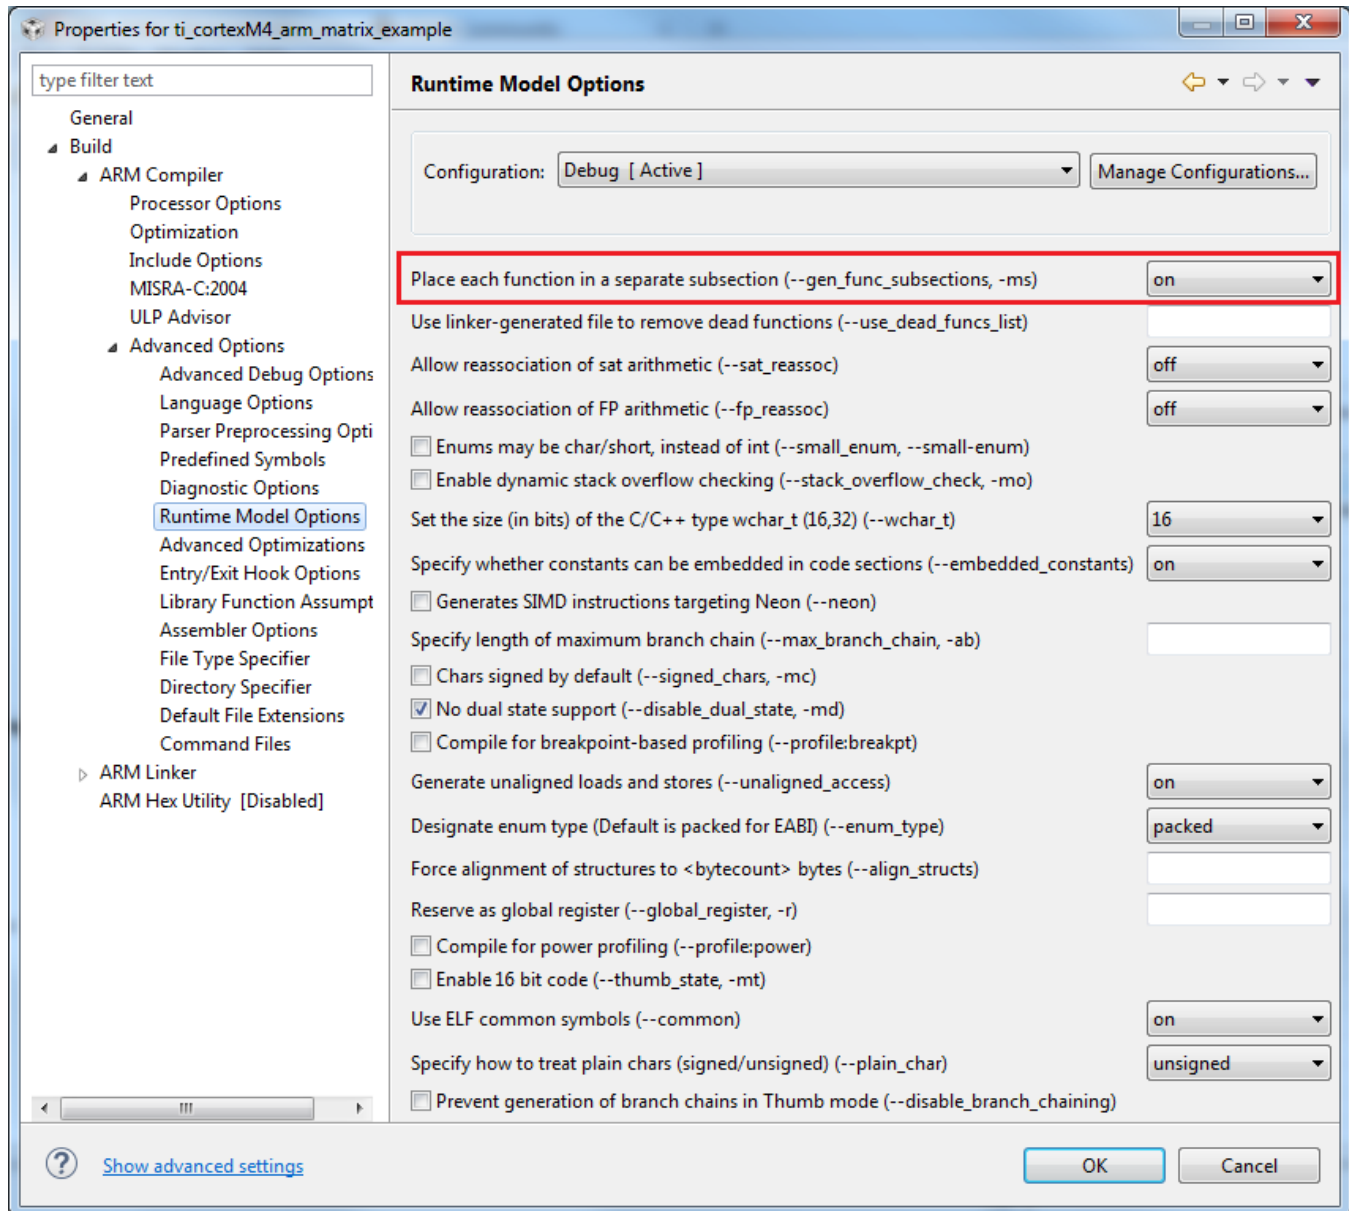

Figure 23. The Runtime Model Options Set Up for Compiling the Example Projects
10. Select the *on* option from the *Place each function in a separate subsection (--gen_func_subsections, -ms)* drop-down menu (see Figure 23), in the Runtime Model Options panel.